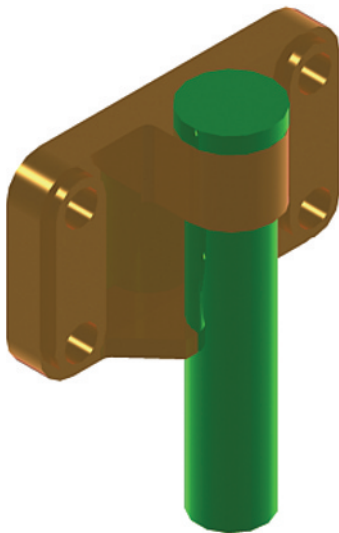

Fig. 18.19 First example of 3D models
First example (Fig. 18.19)
7. **3D Navigate/Southwest Isometric** view. Render. Adjust lighting and materials as necessary (Fig. 18.19).